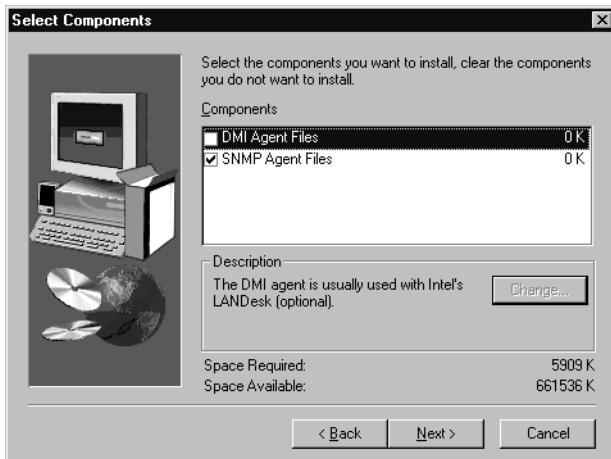

Figure 2-5. Select Components Screen
**Note:** If you are using a Stand-alone system (choice B) the Select Components Screen (Figure 2-5) will not appear.